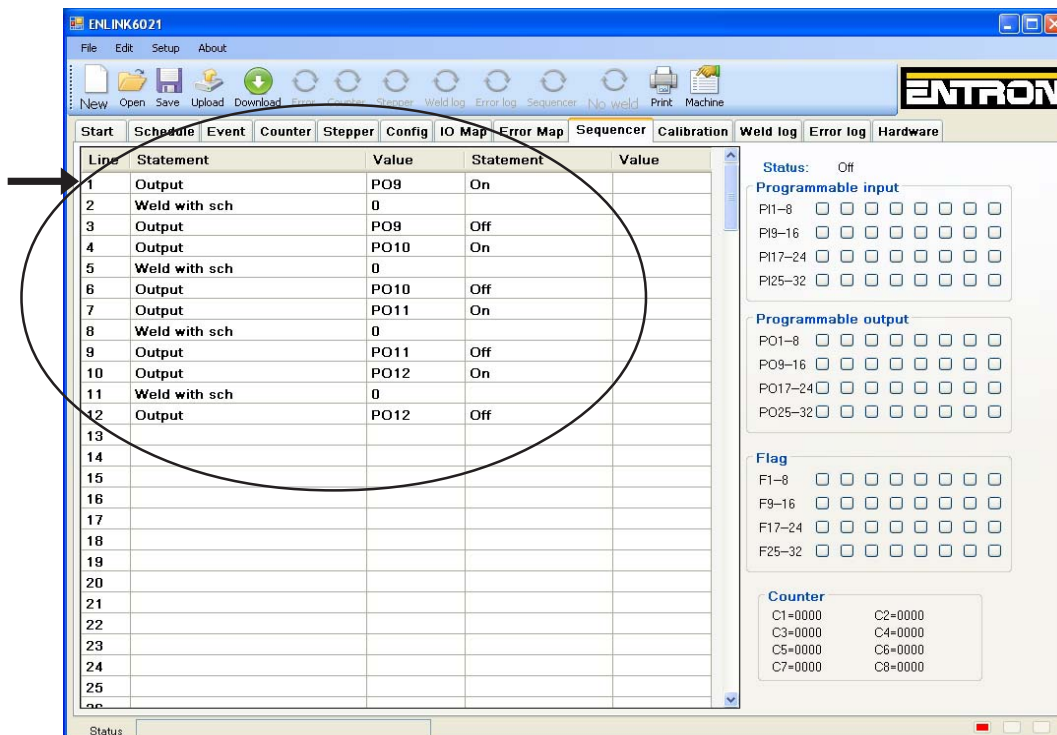

Figure 9-49. Sequencer page
D. Enter SEQUENCER program on Sequencer page as shown in Figure 9-49.